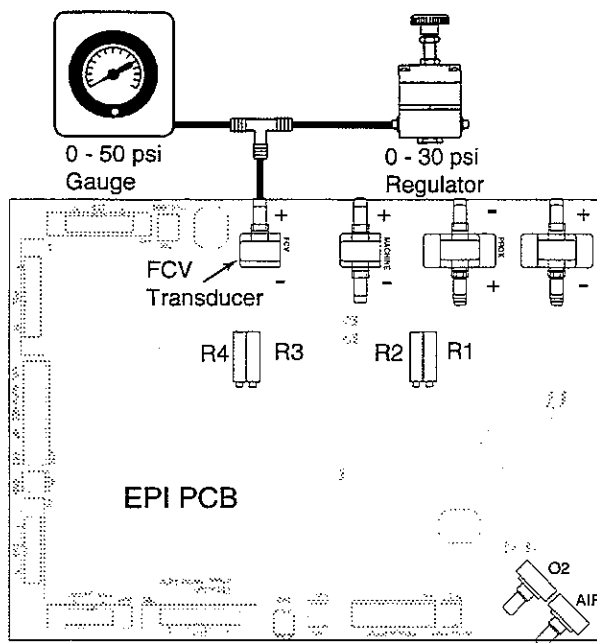

Figure 5-6
7. Connect the FCV Transducer as shown in Figure 5-6 and apply $12 \pm .5$ psig pressure.